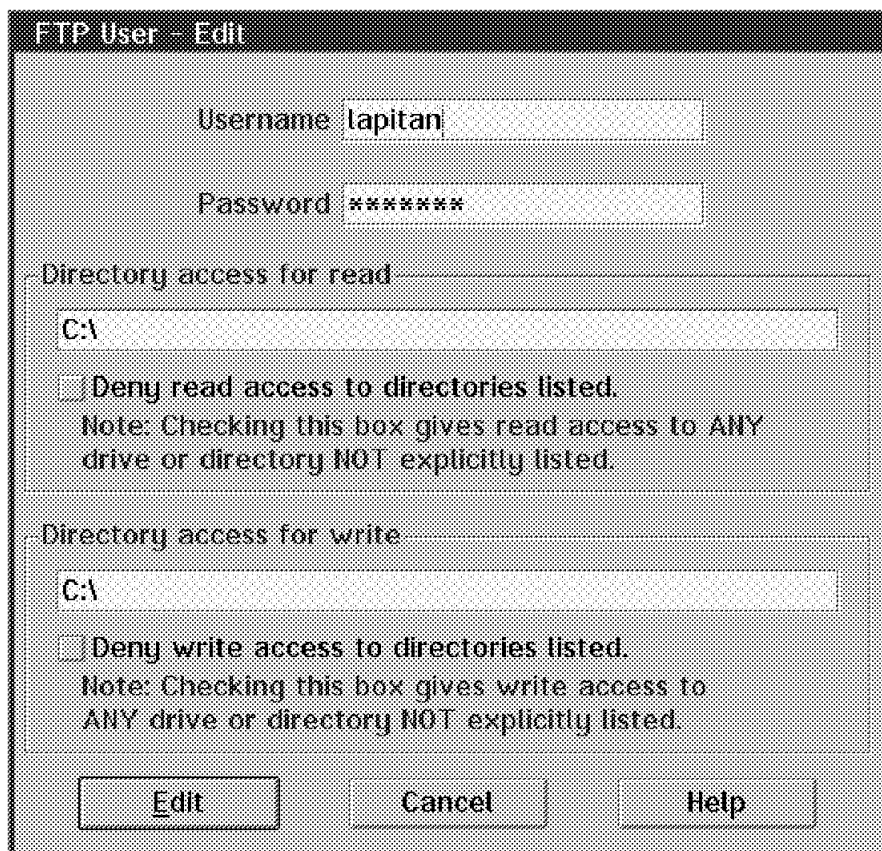

Figure 99. Edit FTP User Window for Workstation
- Step 7. The window, when properly filled in, should look like Figure 99.